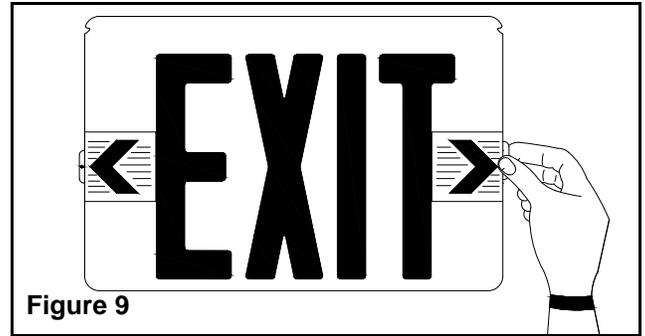

Figure 9
14. Determine chevron placement: (see figure 9)
6. Determine chevron placement: (see figure 9)